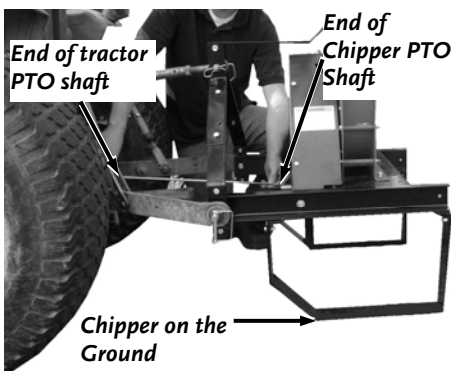

Figure 14
1. Lower the Chipper all the way onto the ground in the operating position. Measure from the end of the Tractor PTO Shaft to the end of the Chipper PTO Shaft and record this dimension in the "ON GROUND" row of the table above (**Figure 14**).